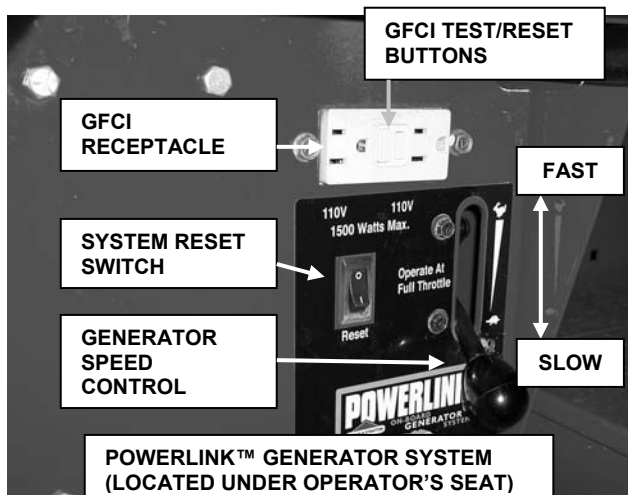

FIGURE 2.7
- D. Set generator engine speed control to 'FAST' (Rabbit) position. (See Figure 2.7.)